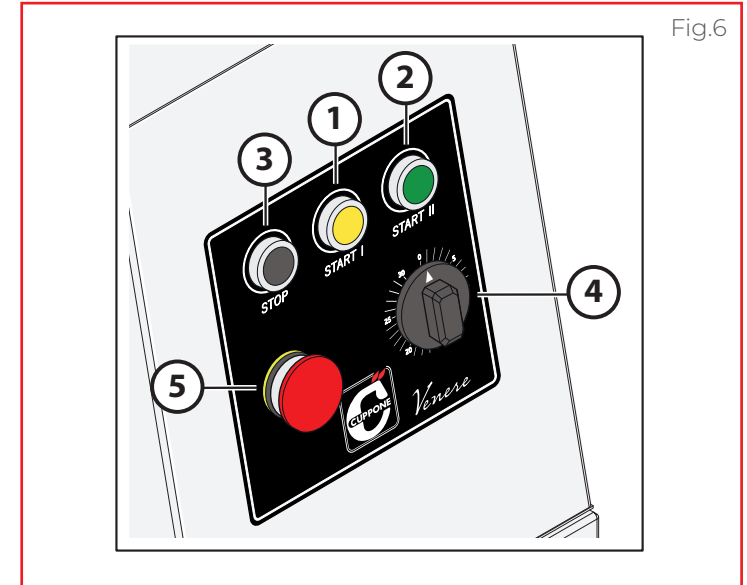

Fig.6
► Fig.6 Processing must start this way:
- rotate the timer (4) to the desired time; this value shows **how long** the appliance has to knead (for instance if the timer is set to “10” the appliance will knead for 10 minutes).